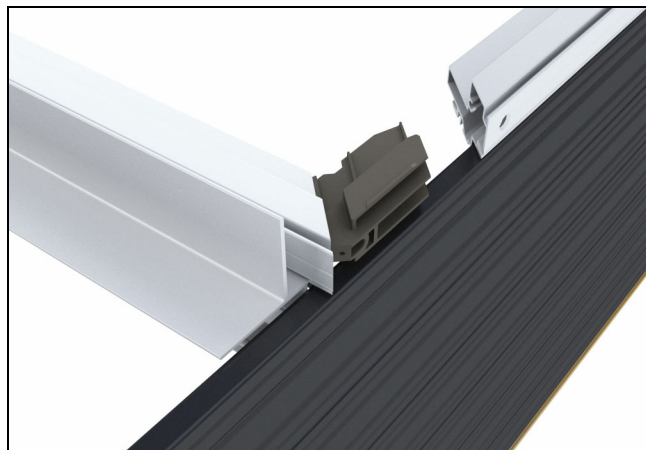

Figure 88
7. On pocketing interlocks, insert frame cladding corner key into mitered end and align with head jamb cladding using keys as reference. See figure 88.